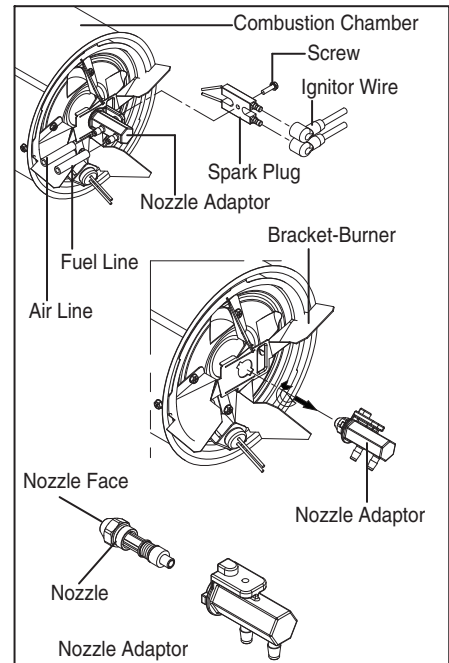

**Figure 15. Nozzle Replacement**
- Turn nozzle adaptor 1/8 turn (45°) to counter clock wise and pull toward motor to remove. (See Figure 15)